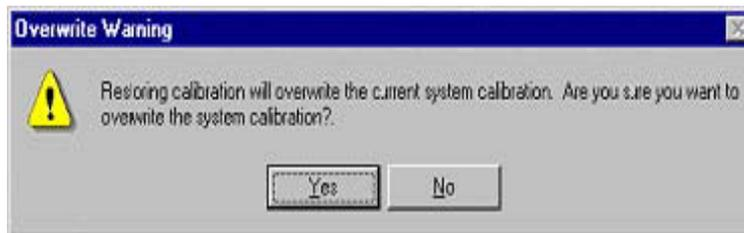

Figure 11. Overwrite Warning
- (6) To restore a calibration, click Restore. The Open dialog box will appear. Select the applicable file folder and/or file name and click Open. The Overwrite Warning, Figure 11, will appear.